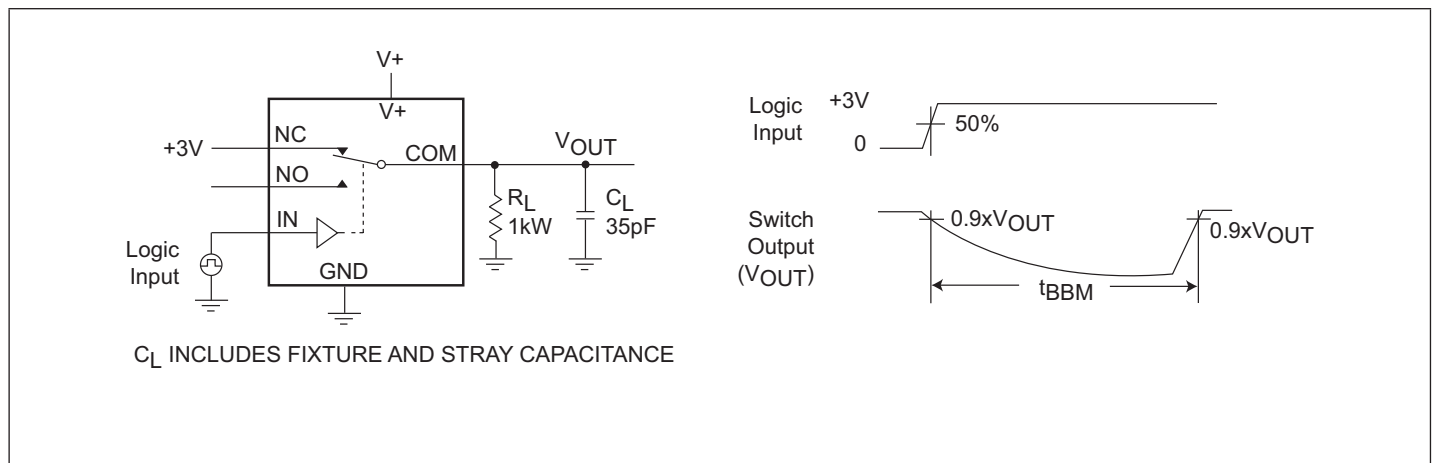

Figure 3. Break-Before-Make Interval
7. Off Isolation = $20\log_{10} [V_{COM} / (V_{NO} \text{ or } V_{NC})]$. See Figure 3.